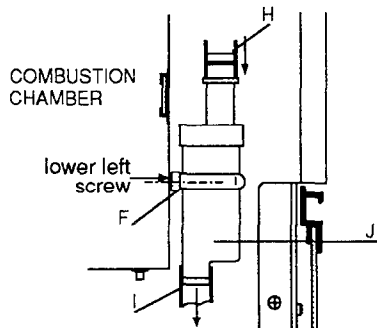

Fig. 29
The remaining silicon tube is connected to the condensation trap bottom connection (I) and must be fitted to suitable plastic pipework to ensure that the discharge is over a drain (see fig. 29). Fill condensation trap with water prior to use.